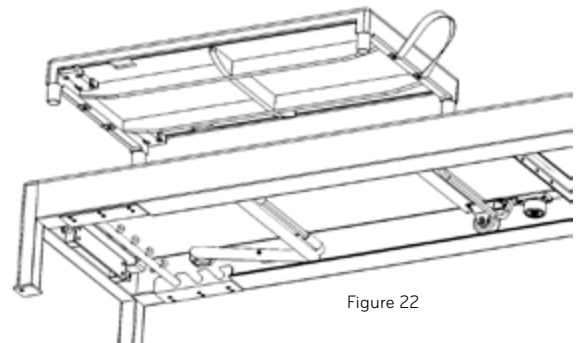

Figure 22
5. Lift and install the Mat Conversion inside the frame. There are (2) cutouts on the underside of the mat to clear the footbar pivots, ensure these are on the foot end of the apparatus when installing. See Figure 22 for reference